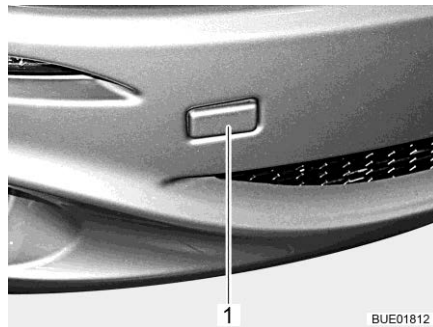

Fig. 47 Cover for the towing eye holder (example)
- Remove the cover (Fig. 47,1).